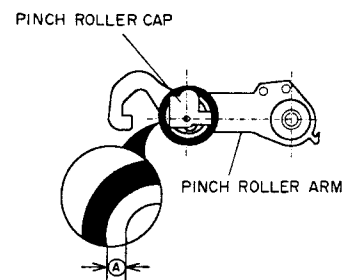

Fig.3-24
4. Reassemble in the reverse order for installation. When reinstalling the PINCH ROLLER make sure that the thicker side of the PINCH ROLLER's (A) part faces up and also that the PINCH ROLLER CAP is installed in the correct direction as shown in Fig.3-24.